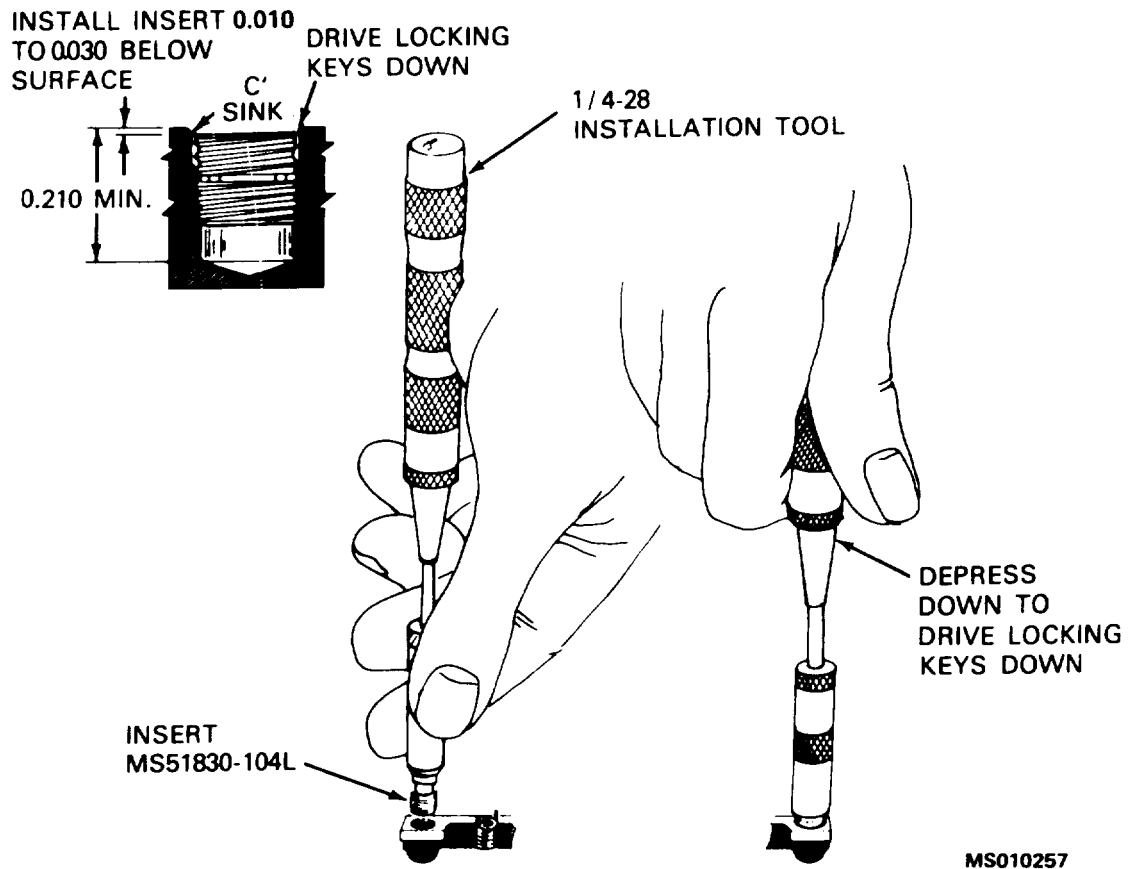

FIGURE 3-14. INSERT INSTALLATION
j. Using the TKNC-08 (1/4-28) insert installation tool from kit NSN 5120-00-110-4568, install insert into tool as shown in figure 3-14 and screw into threaded hole until insert is just below the surface. This position can be felt when the insert keys start dragging on the threaded hole.